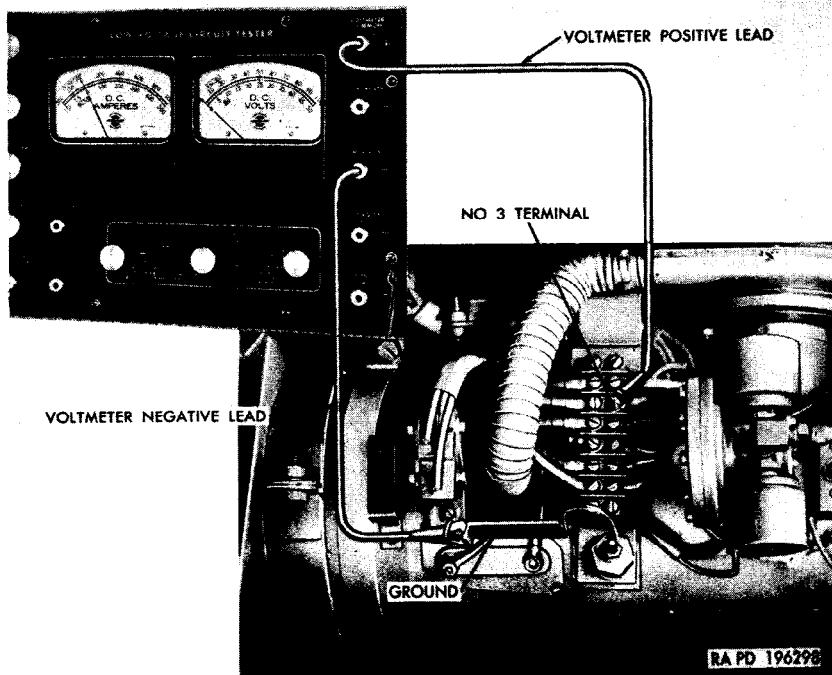

Figure 65. Checking for current at heater.
(1) *Check for current at heater* (fig. 65).